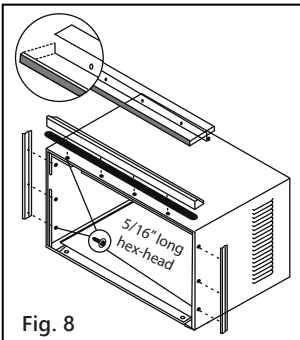

Fig. 8
C. Install top rail and side retainers to cabinet as shown in Fig. 8 (10 screws).